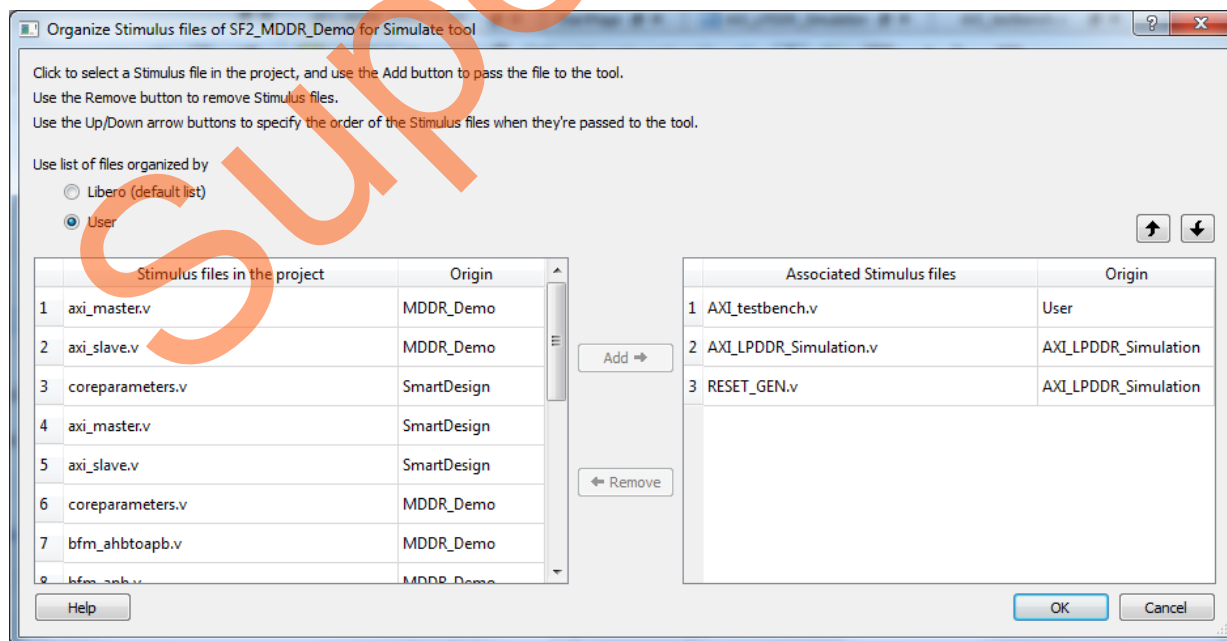

Figure 10 • Organize Stimulus Files Window
8. Ensure that the **Organize Stimulus files** window has the configuration as shown in Figure 10.